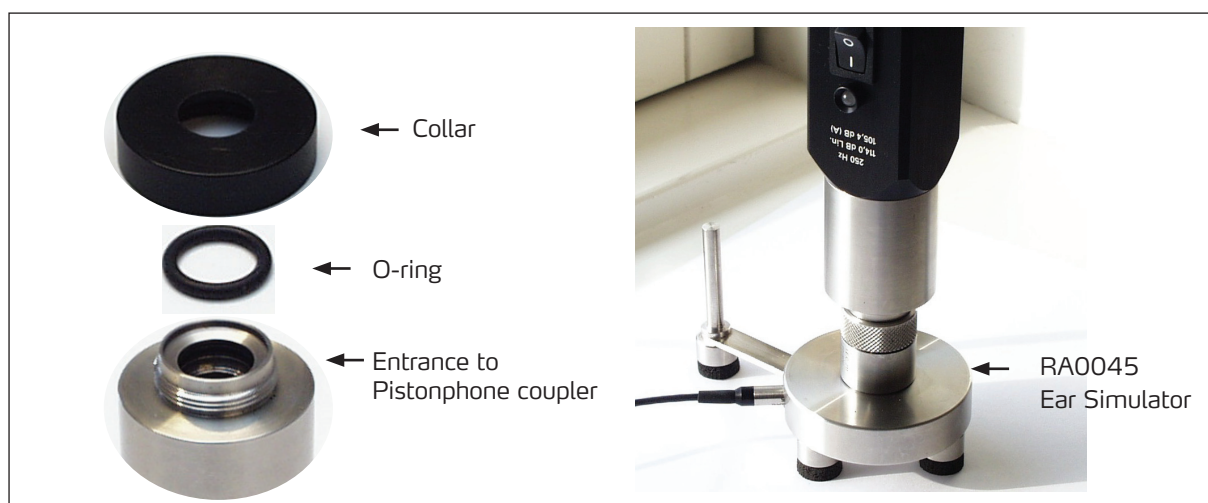

Fig. 11. Calibration using the Pistonphone
- 2) Unscrew the collar of the Pistonphone and remove the O-ring (see Fig. 11).